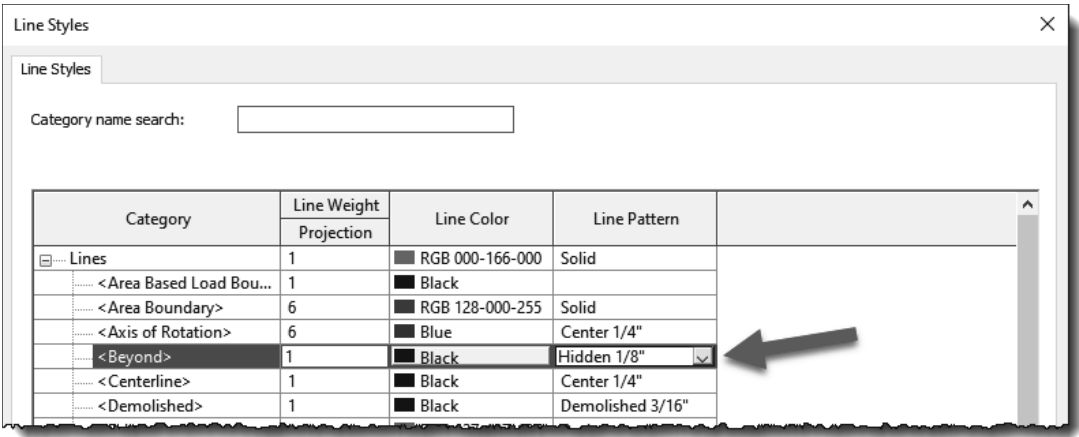

FIGURE 8-5.11 Line Style settings
- 48. Change the *Line Pattern* for <Beyond> to **Hidden 1/8"** (Figure 8-5.11).